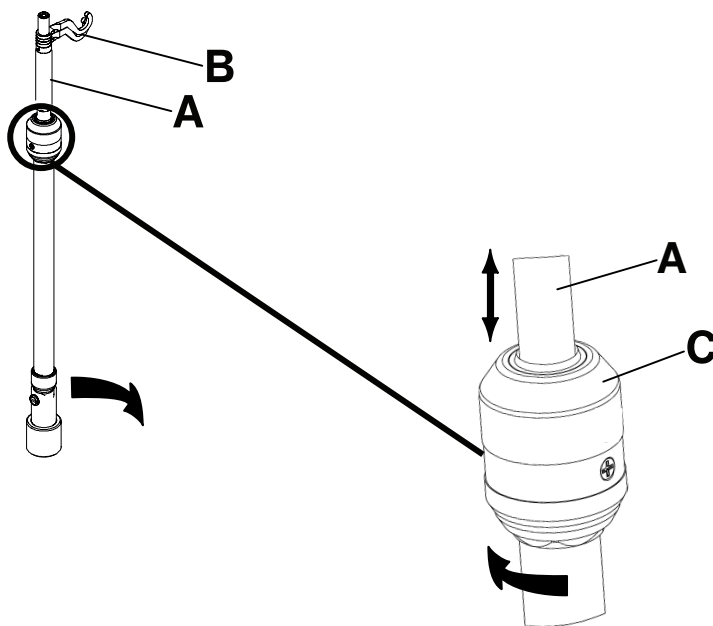

Figure 120: Operating the IV pole
3. To raise the height of the pole, pull up on the telescoping portion (A) until it locks into place at its fully raised position (Figure 120 on page 108).
4. Rotate the IV hangers to the desired position and hang the IV bags (B) (Figure 120 on page 108).
5. To lower the IV pole, turn the latch (C) until the telescoping portion lowers (Figure 120 on page 108).